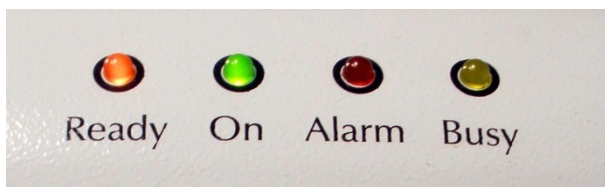

Figure 3. D4 top control lights.
4. Go to the front of the machine and press the green circular button. This enables the mains power and activates the sample handler (see Figure 3).